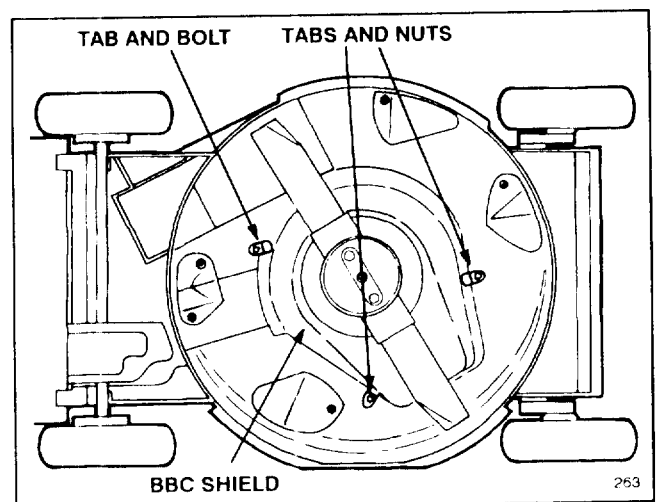

Figure 33
5. Loosen tabs securing BBC shield to deck by loosening nuts or bolts on tabs (Fig. 33). Rotate tabs 180° to move them out of the way.